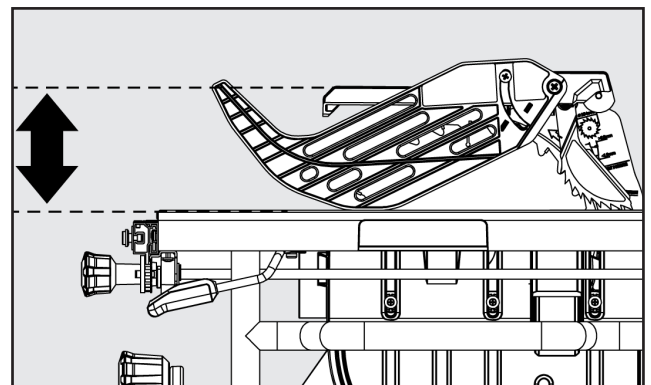

Figure 22
2. Rotate the Blade Guard Assembly toward the front of the saw until Support Arms **D** of the Blade Guard Assembly are parallel to the Table as shown in Figure 22.